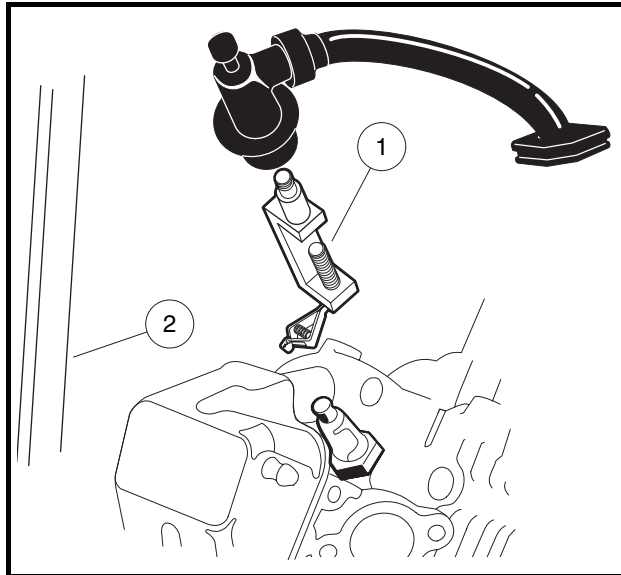

Figure 12-16 Ignition Spark Test
- Remove the plug wire from the spark plug. Using an ignition spark gap test tool (Thexton 404[®] or equivalent), check for correct spark (**Figure 12-16, Page 12-20**).